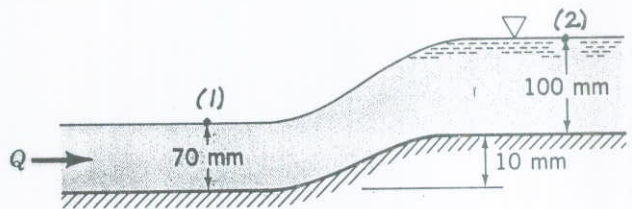

FIGURE P3.102
3.102 Water flows in a rectangular channel that is 2.0 m wide as shown in Fig. P3.102. The upstream depth is 70 mm. The water surface rises 40 mm as it passes over a portion where the channel bottom rises 10 mm. If viscous effects are negligible, what is the flowrate?